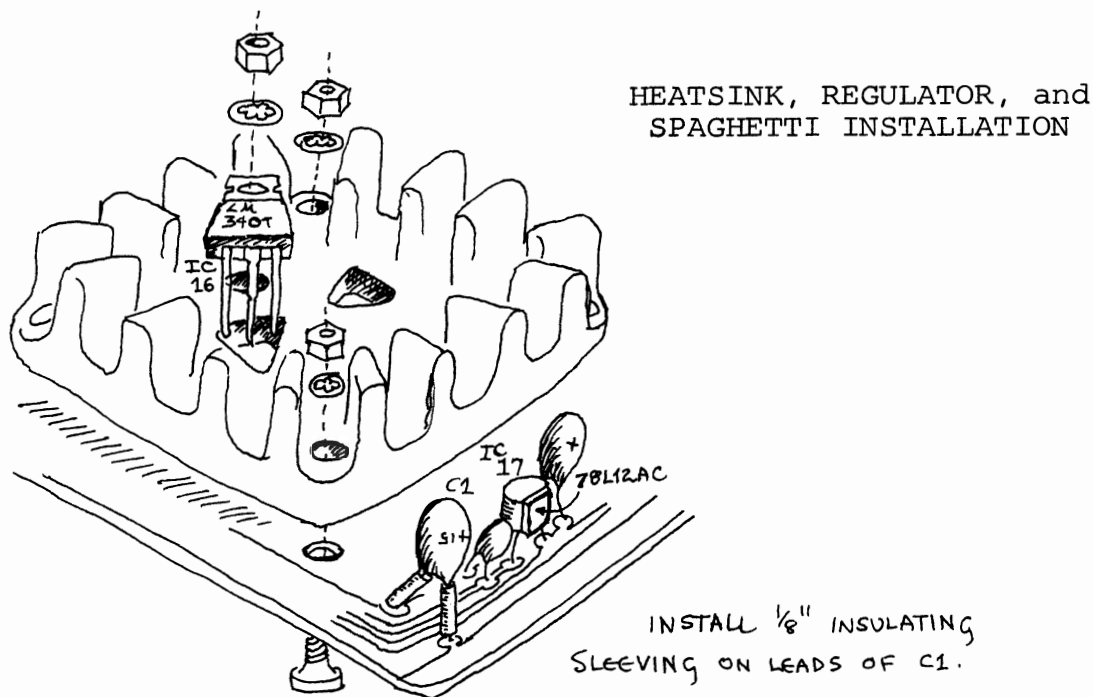

Figure 2-2
Refer to Figure 2-2 and component location diagram (Section V). Position the large, black heat sink (flat side to the board) over the square foil area on the lower left corner. Orient the sink so that the triangle of holes is under one of the triangular cut-outs in the sink. Using 6-32 screws, nuts, and lockwashers, attach the heat sink to the board, inserting the screws from the back side of the board.
C1 .(See Figure 2-2).	.15 uf"+" lead down
Refer to Figure 2-2 and the component location diagram (Section V). Position regulator IC 16 (LM340T) as shown and observe how the leads must be bent to fit the holes. Note that the center lead (3) must be bent downwards at a point approximately 0.2 inches further from the body than the other leads. Bend the leads so that no